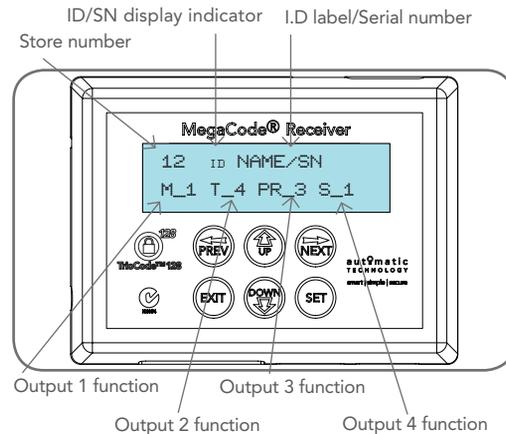

Fig 4.1
The MegaCode® receiver can store up to five hundred and eleven (511) transmitters in its memory. Each transmitter can be allocated an alpha-numeric ID label up to eleven (11) characters in length and each button can be assigned to any channel. The settings for a transmitter are represented in (Fig. 4.1). It shows the transmitter's store number, ID label or serial number and the functions assigned to each of its four buttons. To toggle between ID/SN display, press UP/DOWN with the cursor on the ID/SN indicator.